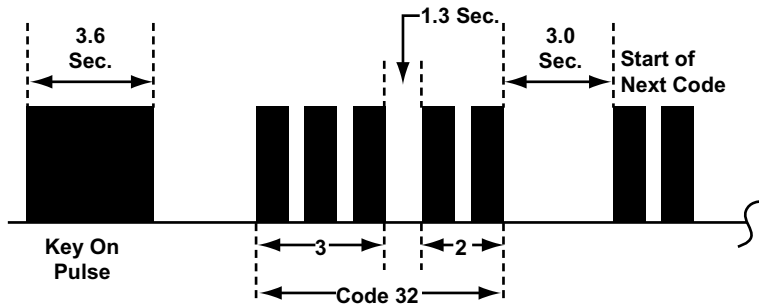

Figure 8-33 Honda ABS Code Type 06
- Type 06, see Figure 8-33 and Table 8-10 on page 79